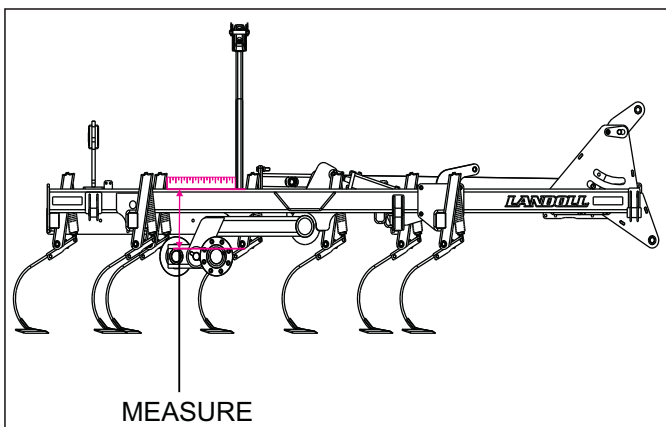

Figure 4-9: Leveling Center Frame from Side to Side
2. To level the unit, verify that all tires are properly inflated. With the implement unfolded, raise the unit to fully extend the lift cylinders. Continue to hold the tractor lever 30 seconds to insure that the cylinders are fully extended and the rephasing lift system has been purged of air. Lower the implement until the sweeps are approximately 1" off the ground. On the center frame, lay a straight-edge across the top of the frame, and measure the distance from the walking tandem spindle to the top side of the frame **See Figure 4-9.**